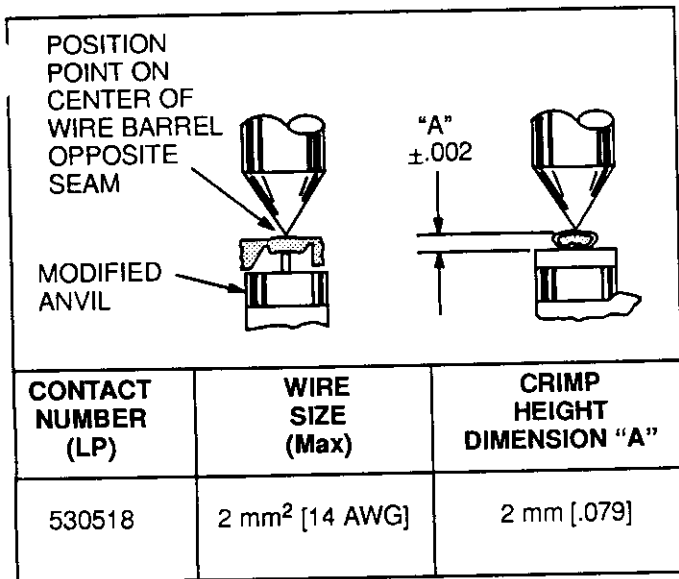

Fig. 5
This inspection incorporates the use of a micrometer with a modified anvil as shown in Figure 5. AMP recommends the use of a modified micrometer (Crimp Height Comparator RS-1019-5LP) which may be purchased from:
1. Refer to Figure 5 and select a contact and wire (maximum size) for the dies.
3. Using a crimp height comparator, measure wire barrel crimp height as shown in Figure 5.
If the crimp height conforms to that shown in Figure 5, the dies are considered dimensionally correct and should be lubricated with a thin coat of any good SAE No. 20 motor oil (taking care to avoid getting oil on the crimp area surfaces). If crimp height does not conform to that in Figure 5, the dies must be repaired or replaced (see Paragraph 5, REPAIR).